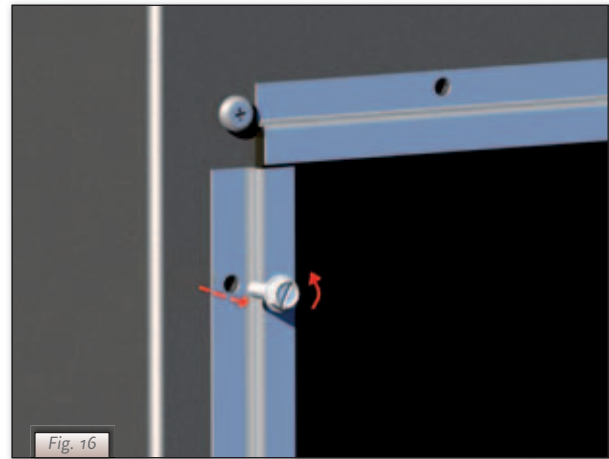

Fig. 16
- ▣▣▣▣▣ **Remove the 4 pane strips from the pane using a screwdriver (see Fig. 16 and 17);**